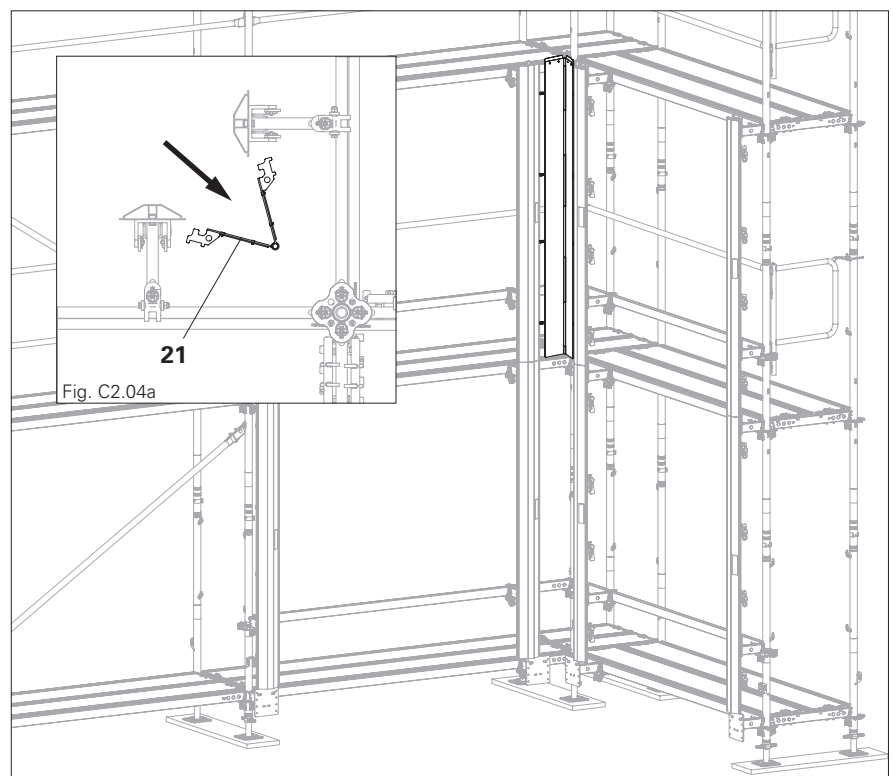

Fig. C2.04
1. Fold Multi-corner CPC 200 (21) behind the support rails. (Fig. C2.04 + Fig. C2.04a)